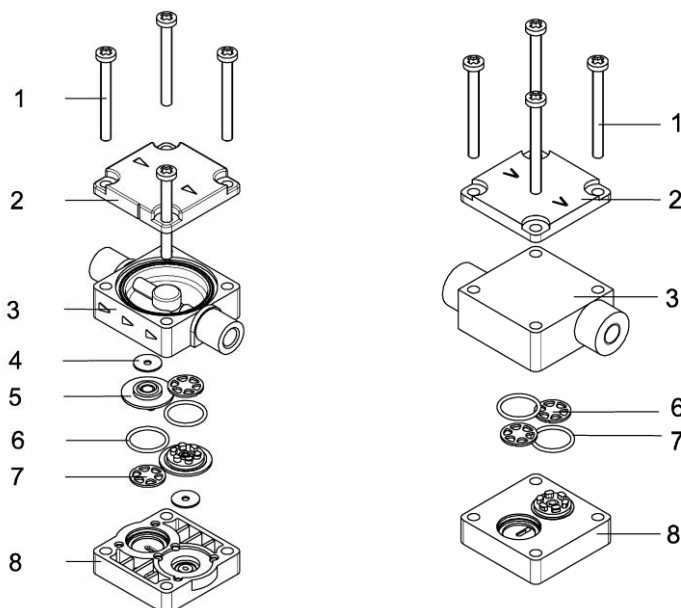

Fig. 66: Head, KT, TT
2. Rinse connecting plate (3) and intermediate plate (8) and wipe with a soft cloth. Blow dry with compressed air
3. Remove valve seats (5) carefully. The sealing washers (4) are not present in the FT head, see Fig. 66
4. Remove O-Rings (6) and valve disk (7).